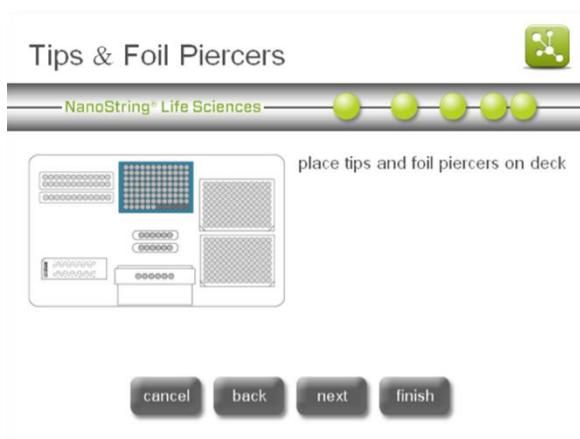
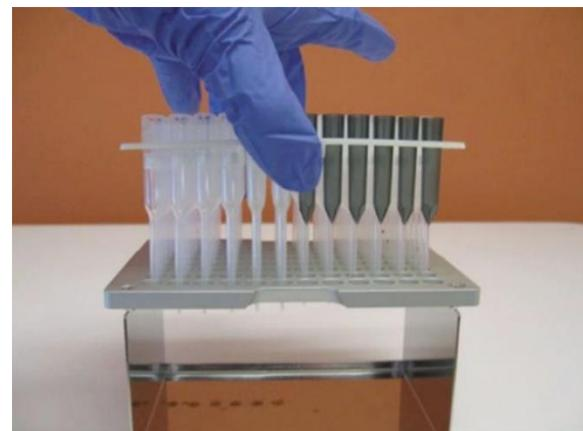

Figure 21: The ‘Tips & Foil Piercers’ screen.
Figure 22: Placing the tips and foil piercers into metal tip carrier.
7. The ‘Tips & Foil Piercers’ screen will appear (**Figure 21**). Remove the metal tip carrier from the Prep Station deck by lifting straight up. Place the tips and the foil piercers into the carrier. It is helpful to place the carrier at eye level to align the plastic tips in the carrier as shown in **Figure 22**. The shorter, dark grey foil piercers should be in the front as shown.